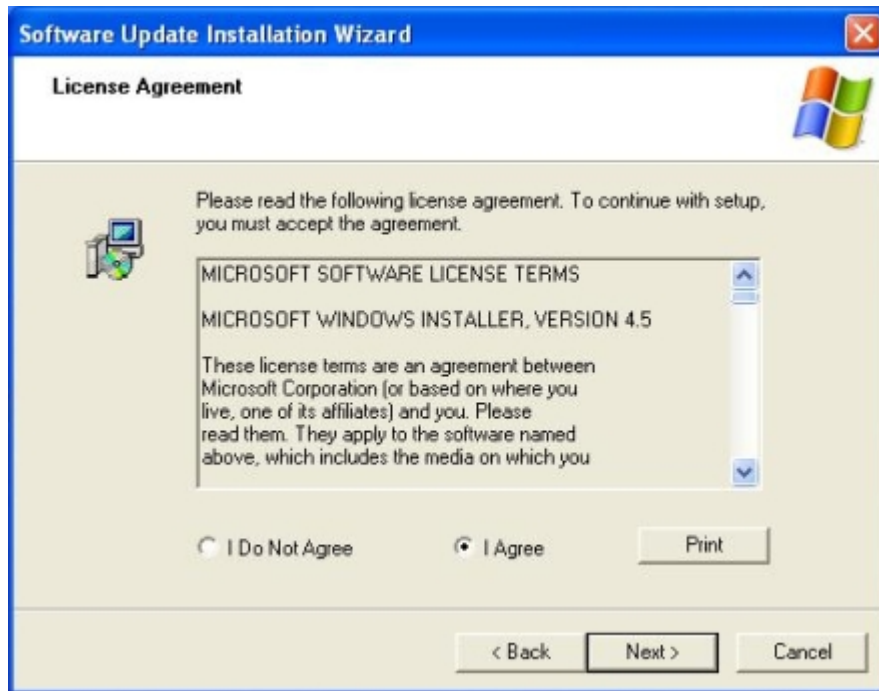

Figure F. 11 - Windows Installer License Agreement
11. Read and accept the license agreement for the Windows Installer Hotfix by clicking the **I Agree** radio button, Figure F. 11, and then click Next to continue with the installation.